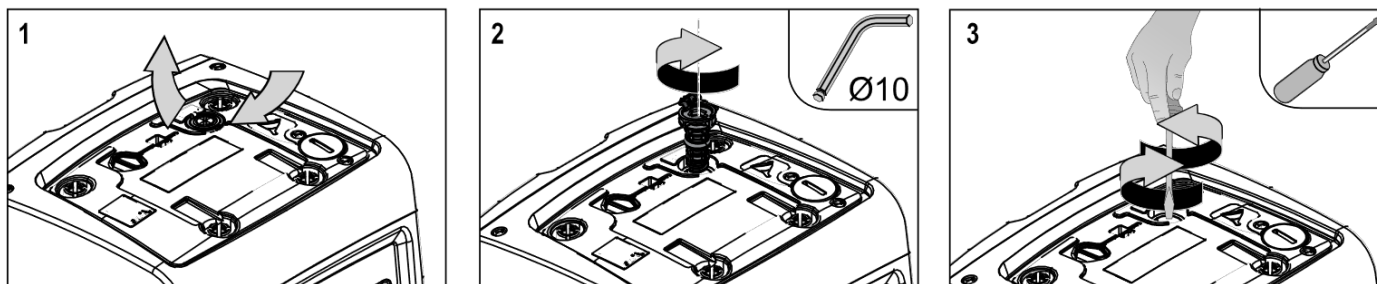

Figure 23
2. lift the rubber cover of the motor shaft access cap (Fig. 23);
3. using a 10mm hexagonal key, remove the motor shaft access cap (Fig. 23);
4. insert a flathead tip screwdriver in the groove on the motor shaft and manoeuvre, turning in 2 directions (Fig. 23);